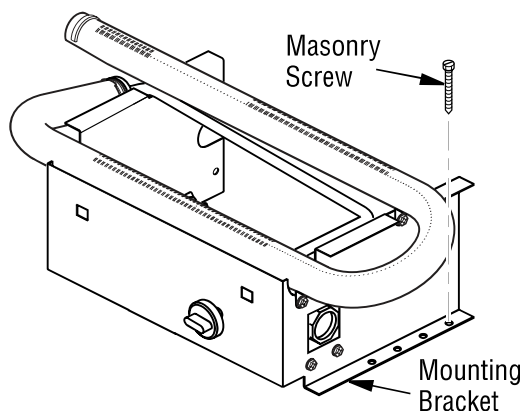

Figure 12 - Attaching Base to Fireplace Floor
7. Mark screw locations through one hole on each side of the mounting bracket (*see Figure 12, Page 13*). If installing in a brick-bottom fireplace, mark screw locations in mortar joint of bricks.